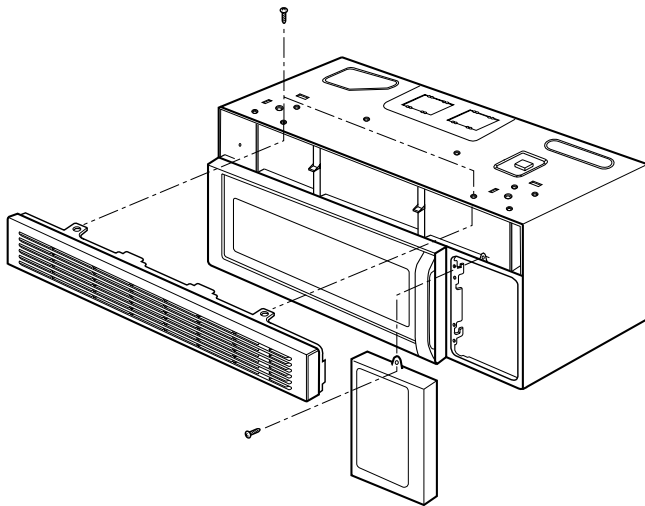

Figure 11
(Figures 11 Through 14)
- (1) Remove the vent grille by removing two screws. (Figure 11)
- (2) Remove the controller by removing a screw and disconnect all wire leads. (Figure 11)